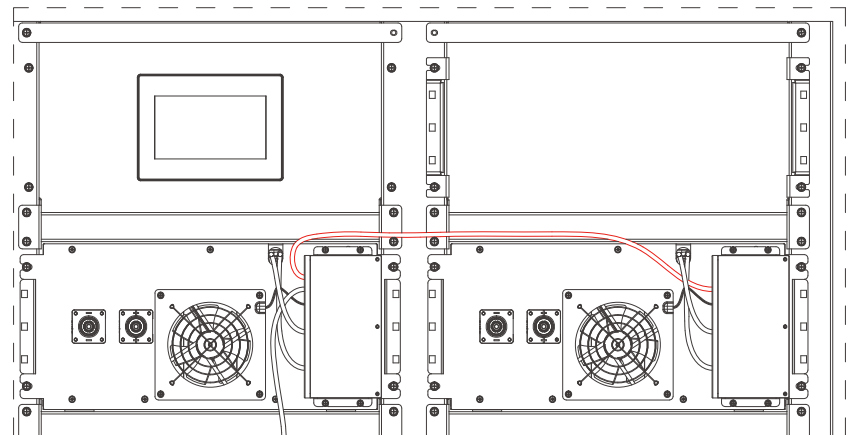

Figure 2.10
(6) Tenth and eleventh battery box BMU communication connection (Figure 2.10).